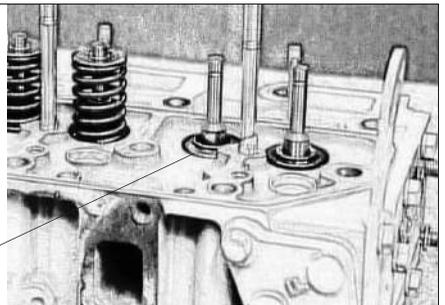

Fig 5-14 Valve Rotator
2.2 There are valve rotators on bottom of exhaust valve spring seat which makes valve rotation, improve valve seal and prolong use life (see Fig 5-14).